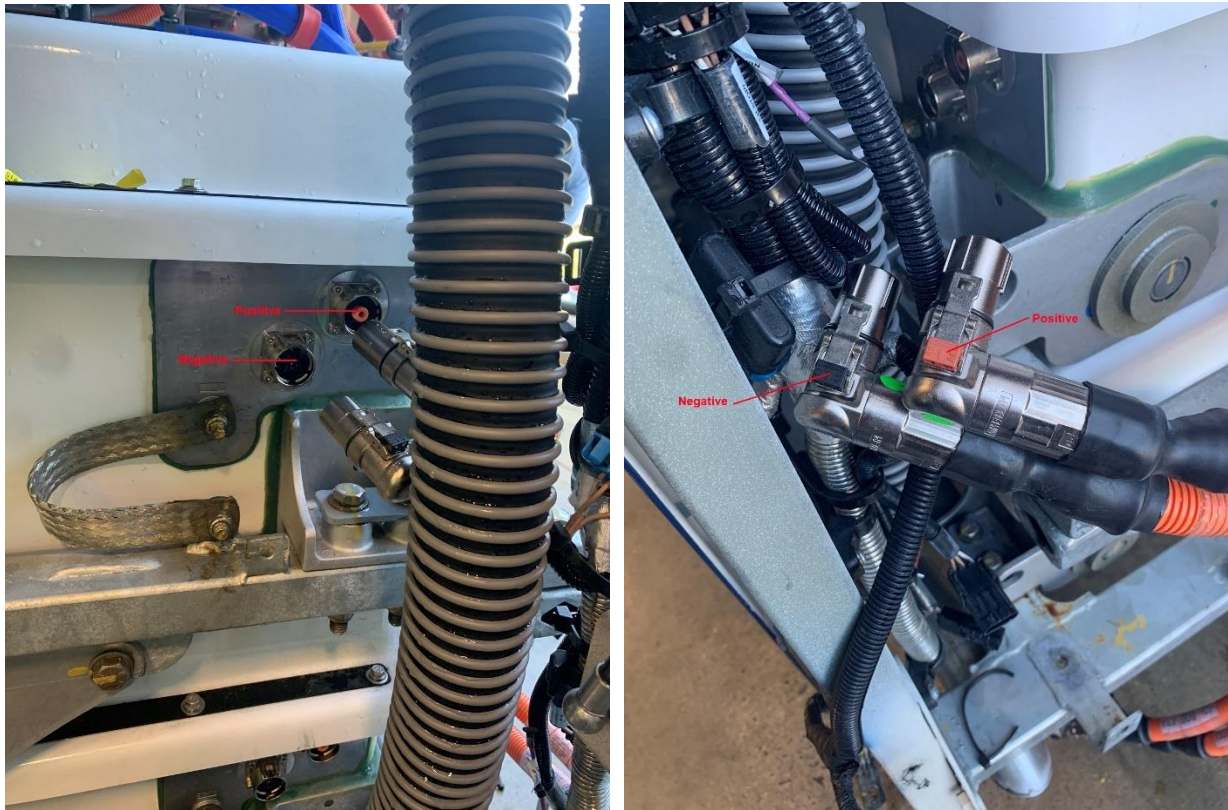

Figure 5: HV cable connections reference.
10. Disconnect HV cables from both ESS packs. Make notes of the positive and negative connections. See figure 5 below.